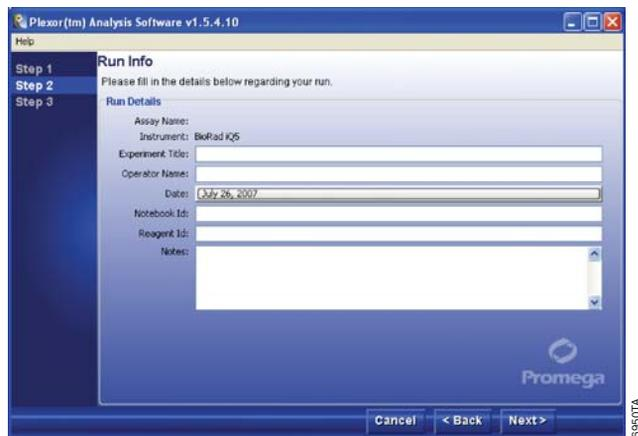

Figure 21. The Run Info screen when exporting and importing via Microsoft® Excel.
17. **Optional:** Enter information specific to your run in the Run Info screen, Step 2 (Figure 21). Details such as the date, notes, title, name of the researcher, etc., can also be entered in the provided windows.